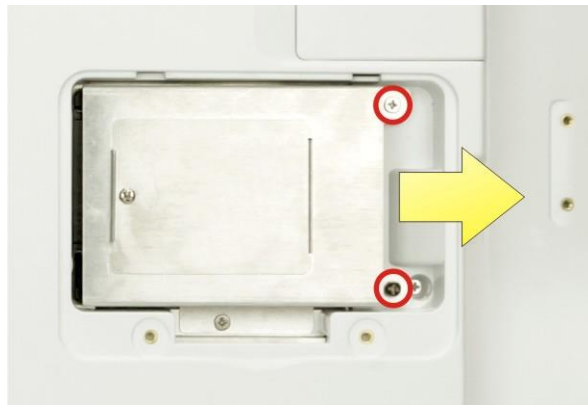

Figure 3-2: HDD Bracket Retention Screws
Step 3: Remove the two HDD bracket retention screws (**Figure 3-2**) and pull the HDD bracket out.